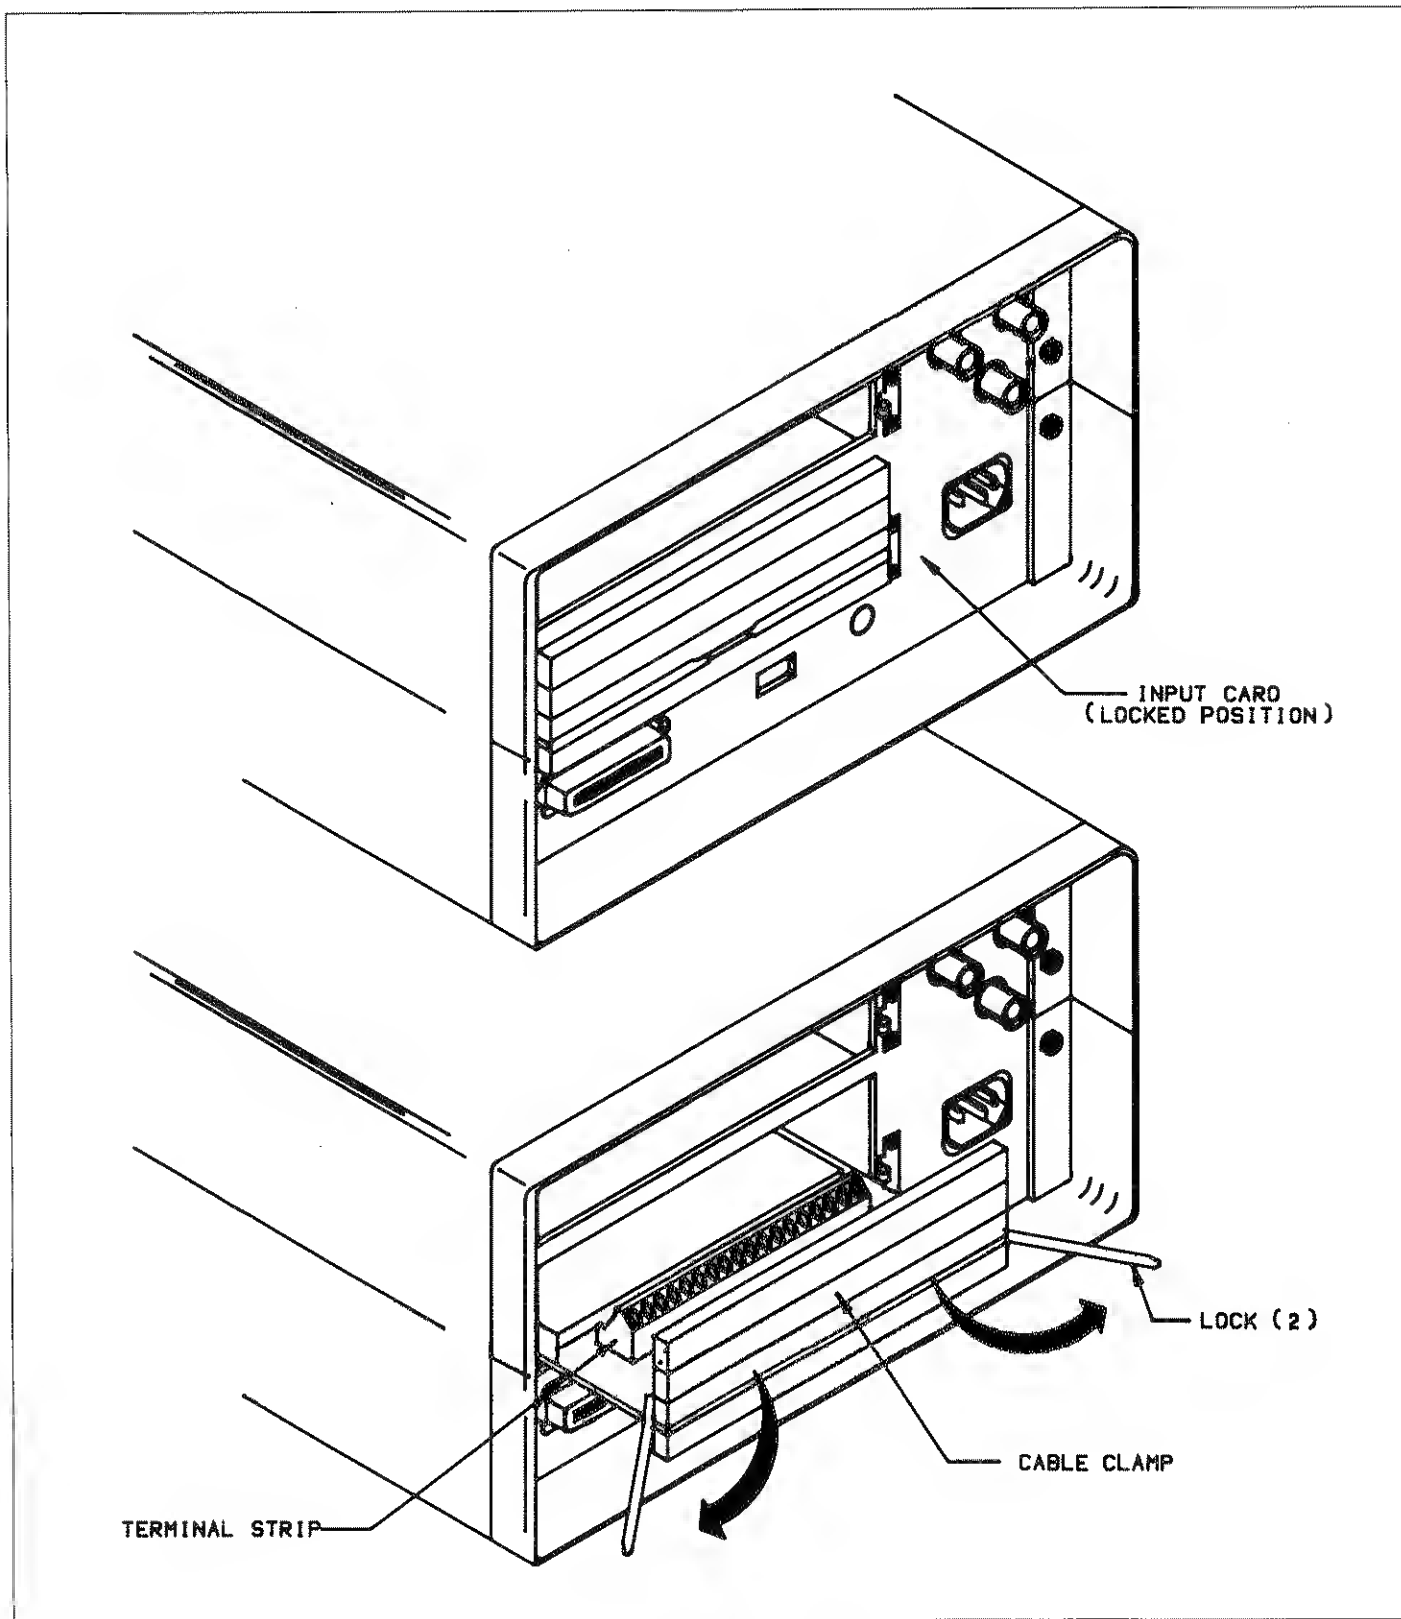

Figure 2-4. Input Card
6. Push the input card back into the mainframe, lock the card in place as shown in Figure 2-4, and power-up the instrument.
8. To gain access to the input card terminal strip, unfasten the locking tabs by pulling both locks forward (see Figure 2-4). Grasp the end of the card and pull it forward until it stops.
12. Push the input card back into the mainframe, lock the card in place as shown in Figure 2-4, and power up the instrument.
5. To gain access to the Model 740 input card terminal strip, unfasten the locking tabs by pulling both locks forward (see Figure 2-4). Grasp the end of the card and pull it forward until it stops.
9. Push the input card back into the mainframe and lock the card in place as shown in Figure 2-4.